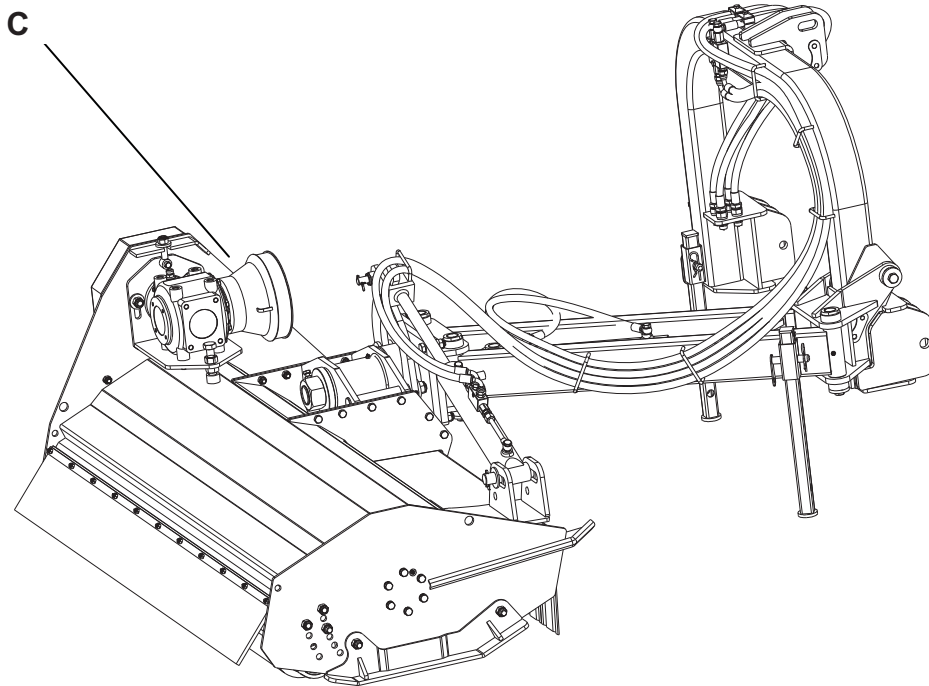

Fig. 4.5
e) PROTECTION BOÎTE D'ENGRENAGES (fig. 4.5)